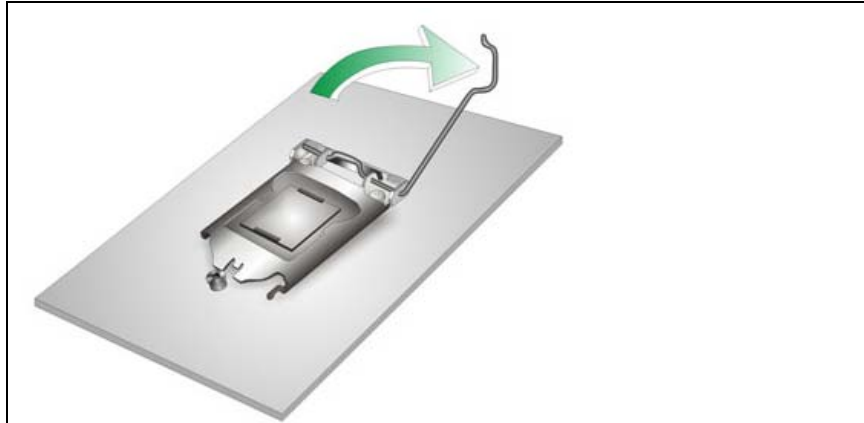

Figure 3-6: Disengage the CPU Socket Load Lever
Step 4: **Disengage the load lever** by pressing the lever down and slightly outwards to clear the retention tab. Fully open the lever. See **Figure 3-6**.